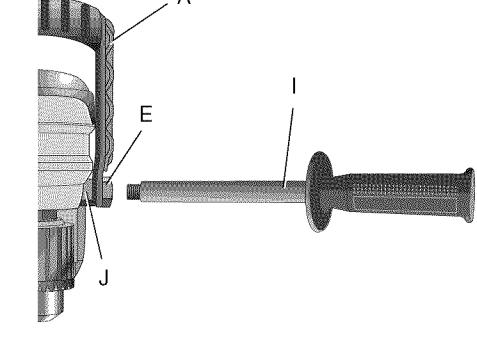

FIG. 5
Chuck Key Holder (Fig. 5, 6, 7)
1. Push double-hole end of holder through the slot in other end of holder (Fig. 5).